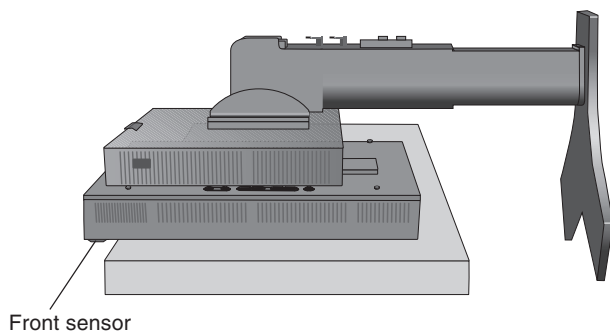

Figure S.1
5. Place monitor face down on a non-abrasive surface. Be sure to not apply any stress or pressure to the front sensor. To avoid this, lay the display face down on a desk or table with the front sensor situated off the edge (**Figure S.1**).